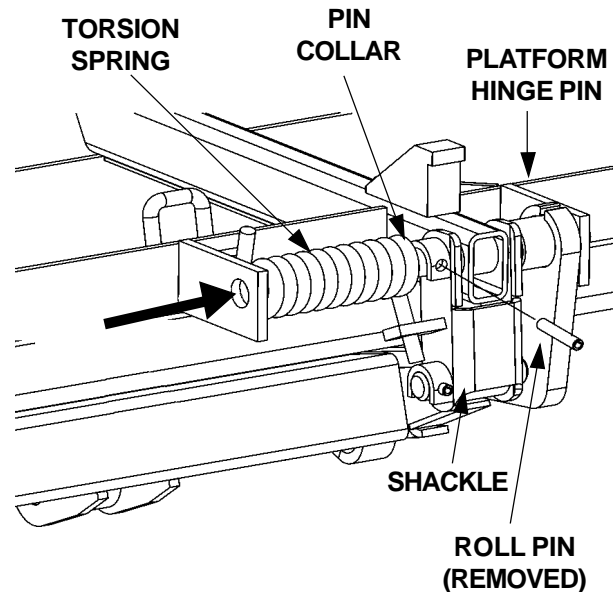

FIG. 10
3. Drive out the roll pin from pin collar on the Platform Hinge Bracket. Drive the platform Hinge Pin outboard from the Shackle just enough to free the torsion spring (**FIG. 10**). Remove spring from Shackle.